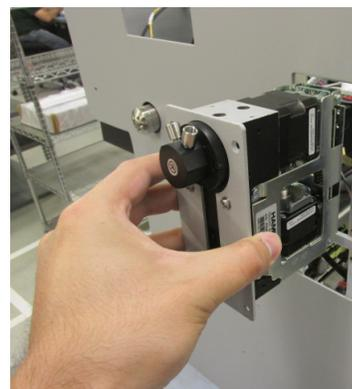

Figure 3: AutoInjector partially installed
6. Once the power supply cable is secured, you may now slide the AutoInjector Module into the ACCQPrep system. (Figure 3).